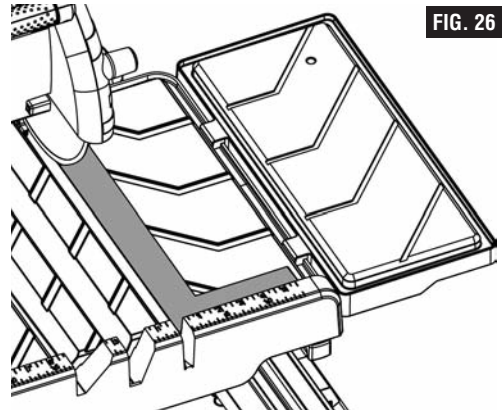

FIG. 26
- Place a 90° framing square on the working table against the fence (Fig. 26).